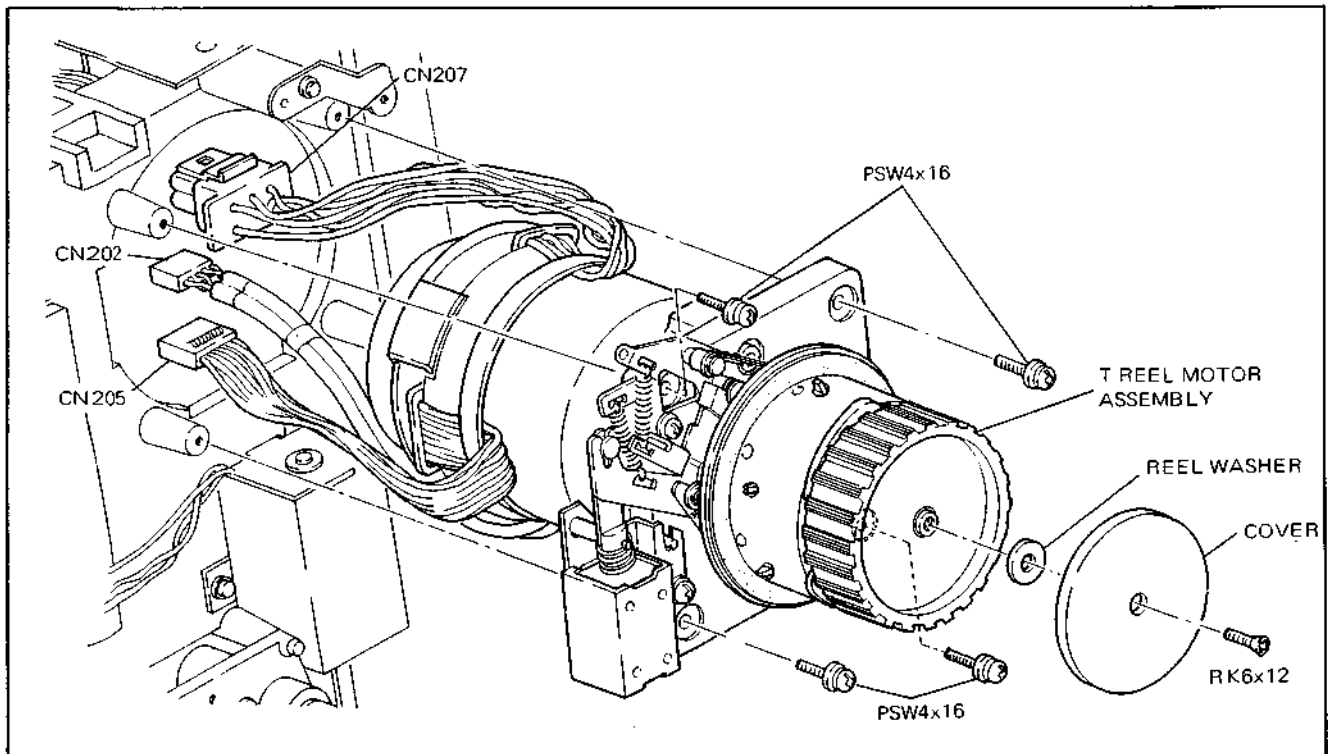

Fig. 6-10. T Reel Motor Assembly Replacement
2. Remove the cover and reel washer (see Fig 6-10).